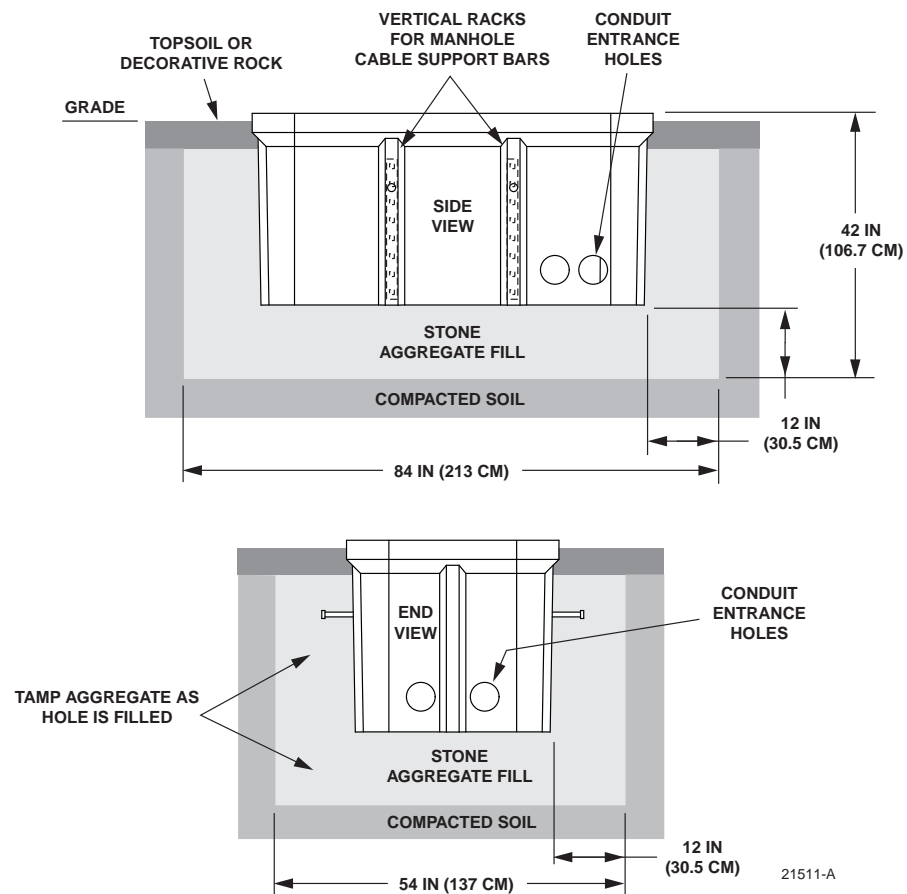
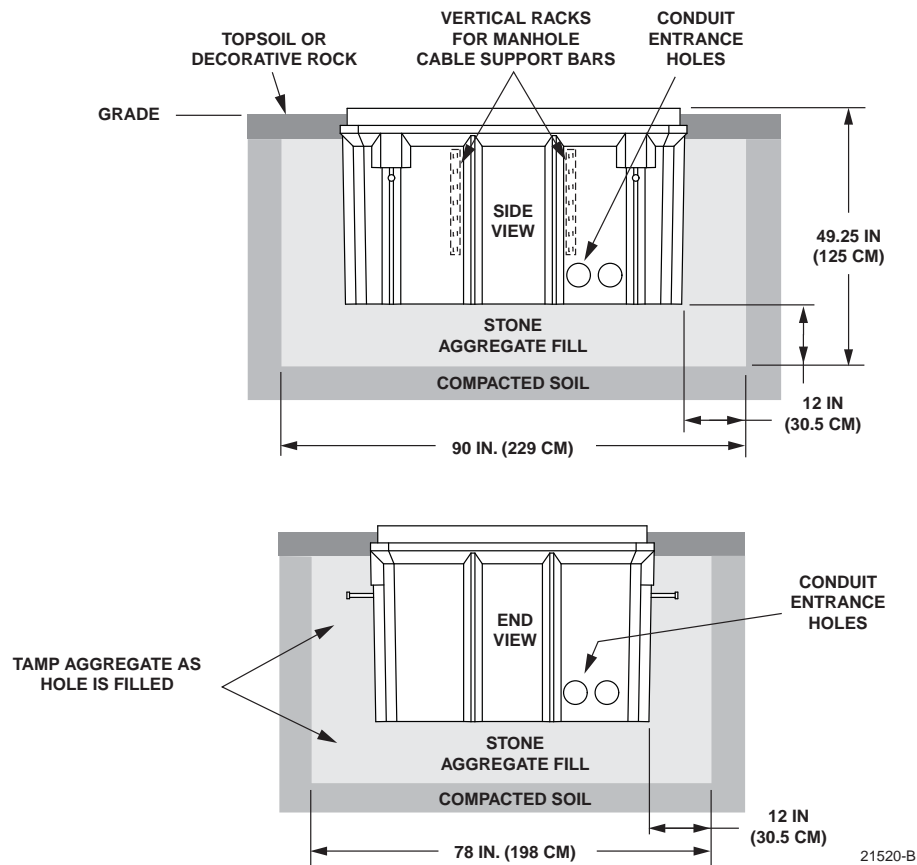

Figure 5. Excavation Recommendations for FMS-ACE100-KIT-A (Small FMS)
Figure 6. Excavation Recommendations for FMS-FD3EG-LKIT-A (Large FMS)
The excavation must be large enough to provide a fill base that will maintain stability for the FMS and the cabinet mounted on it. There must be room for 12 inches (30.5 cm) of fill below and on each side of the FMS. The excavation dimensions for the small FMS are shown in Figure 5. The excavation dimensions for the large FMS are shown in Figure 6. Excavate a rectangular hole for the FMS.
Select the conduit entrance holes (see Figure 5) for the OSP feeder and distribution cables. If necessary, additional conduit entrance holes may be cut using a power drill and hole saw. Place and route the conduit into the entrance hole(s). If preferred, the FMS may be installed without conduit. OSP cables may be routed into the FMS at any point that is convenient. Cut the cable entrance hole to match the size of the cable.
2. Complete the back-fill with crushed rock or topsoil depending on the landscaping requirements. The top surface of the mounting sleeve may be located from 0 to 4 inches (10.2 cm) above the surrounding grade (see Figure 5).